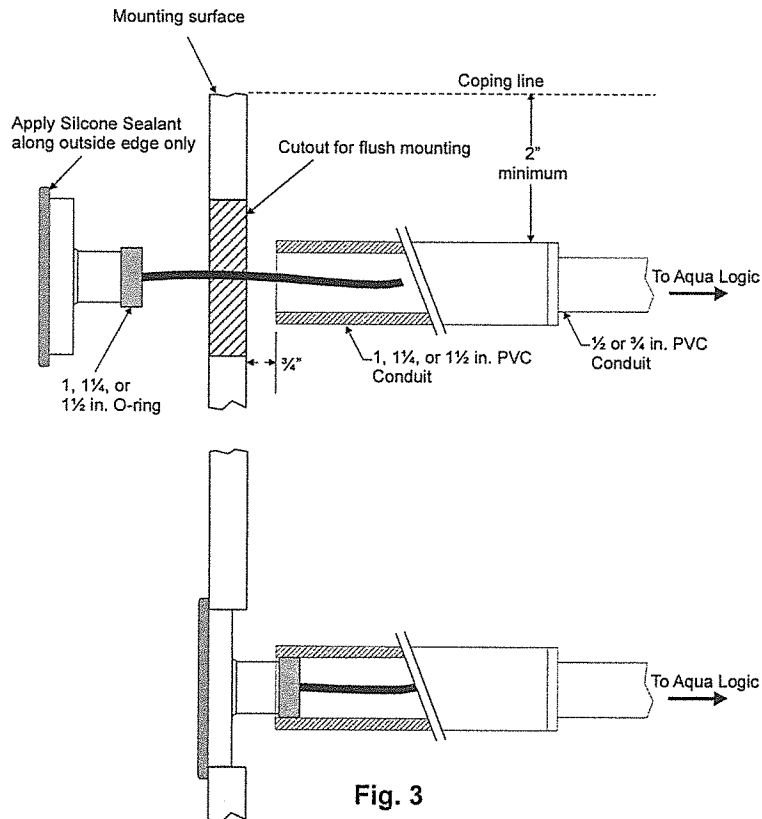

Fig. 3
Flush mounting the AQL-SS-6B/D is similar to surface mounting except that the flush mount frame is used and a cutout is made to accommodate the body. The remote (with frame) is inserted into the cutout and the O-ring is inserted into the PVC pipe. Refer to Fig. 3 and follow the steps below:
2. Install a 6" (minimum) piece of 1", 1¼", or 1½" PVC pipe to be used as a receptacle for the AQL-SS-6B/D. The pipe will be installed in the pool/spa wall, centered on the cutout with the pipe end located ¾" behind the cutout surface. The other end should be attached to ½" or ¾" electrical conduit and run back to the Pro Logic/Aqua Logic. See Fig. 3. It is advisable that this pipe be plumbed as level as possible although the O-ring is designed to compensate for small variations from perpendicular if necessary.